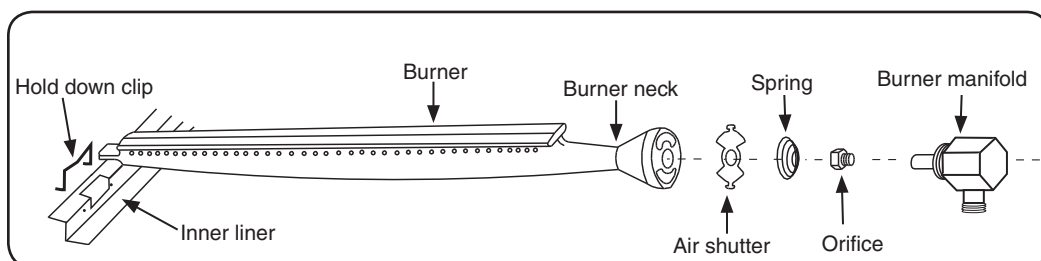

Fig. 16-1 - Burner orifice diagram
4. Using a flat blade screwdriver, pry the burner retaining clip from rear wall of the barbecue frame (see Fig. 16-1). Remove the burner by; A) Pulling it to the front of the barbecue; B) Lift the far end out of the notch; C) Pull the burner away from the manifold, taking care not to lose the air shutter and spring, which may become detached when the burner is removed.
6. Install the air shutter spring and the air shutter over the orifice holder fitting in the order and position shown in Fig. 16-1. Carefully place the burner(s) back in position, resting on the back flange of the inner liner so that the brass orifice and orifice holder fittings project well into the burners.